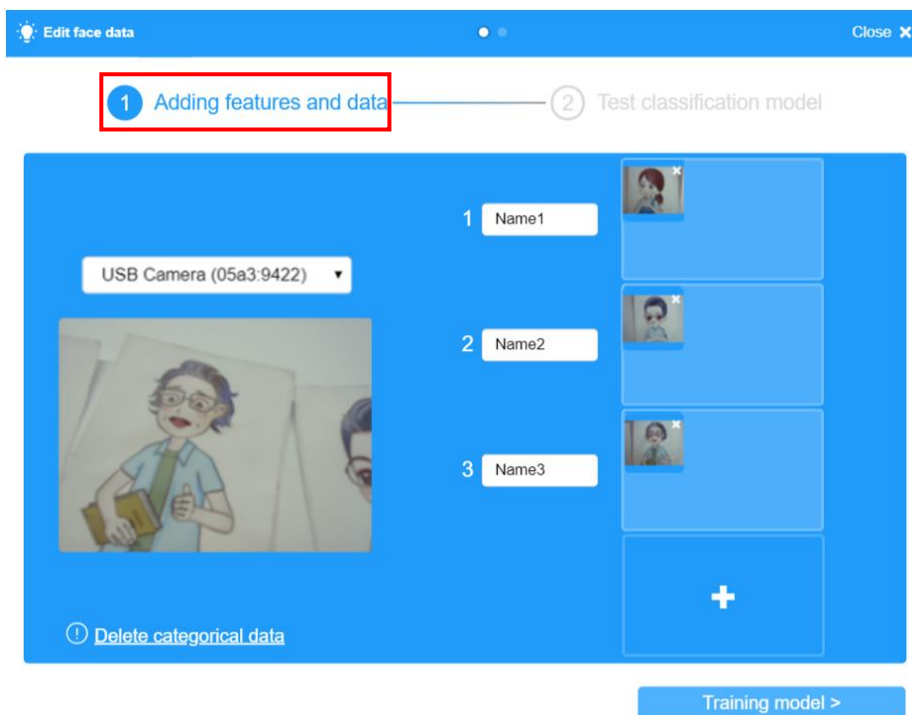

Figure 5.8 Adding features and data
Step 2: Click the "New face data" button to collect facial images and complete the facial data storage, as shown in Figure 5.8.